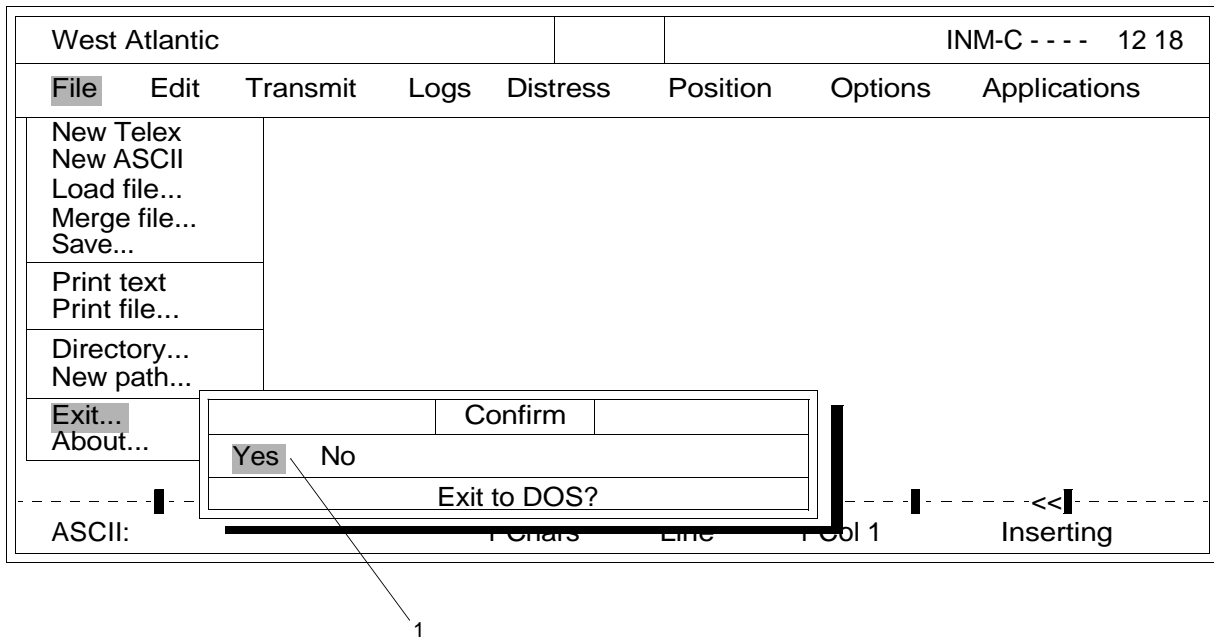

Figure 6. Confirm Screen
- 6. Highlight Yes (figure 6, item 1) on the Confirm screen.